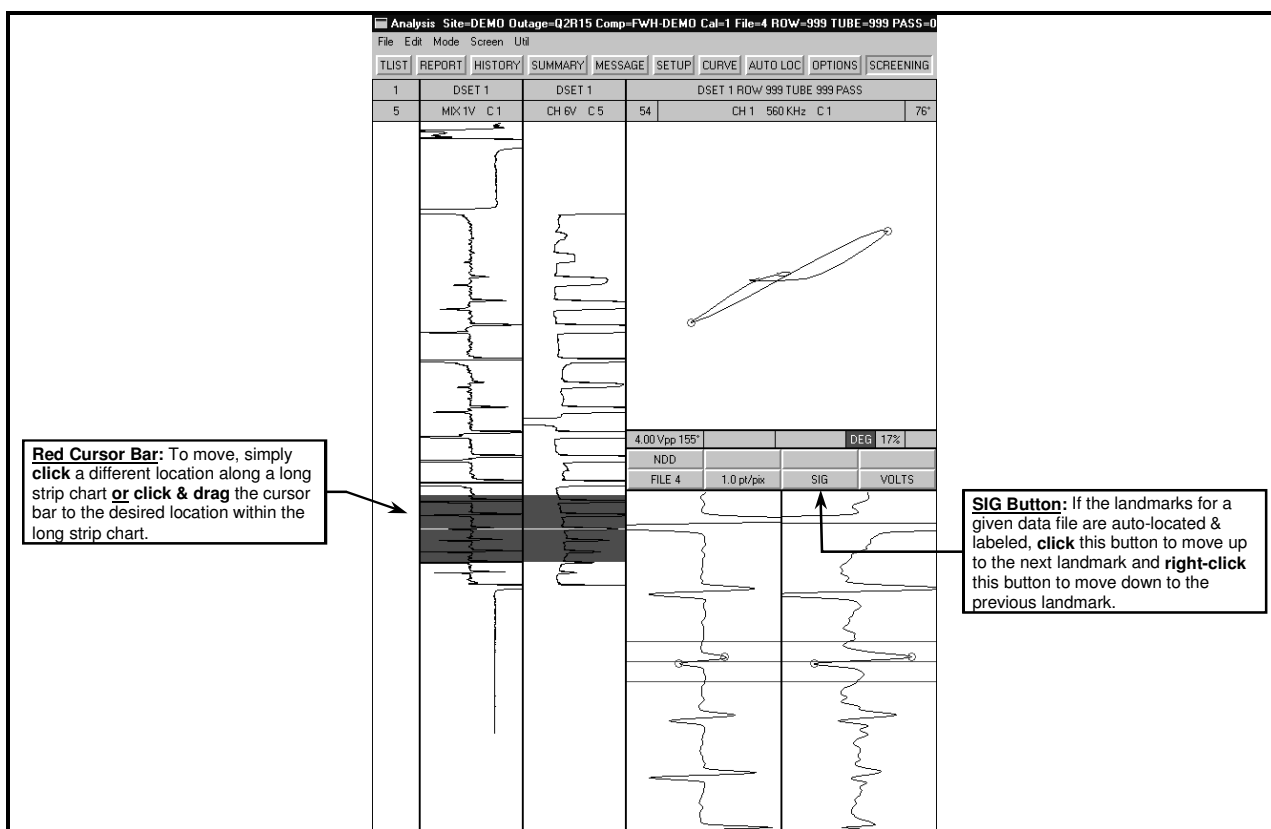

Figure 4-4. Moving the Red Cursor Bar within a Long Strip Chart
To move the red cursor bar within a long strip chart (see Figure 4-4):
- If the landmarks for a given data file are auto-located & labeled, **click** the **SIG** button (see Figure 4-4) to move up to the next landmark and **right-click** the **SIG** button to move down to the previous landmark;